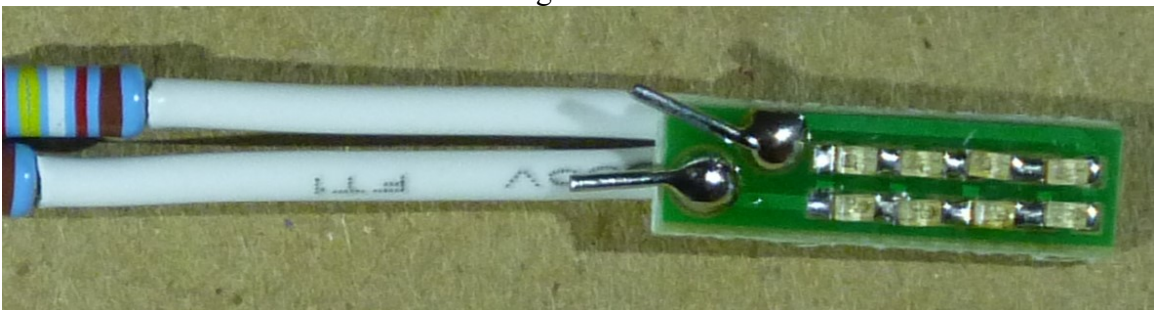

**Figure 4-Insert and form the leads**
6. Insert the resistor in the Blue Light PCB from the side *without* the LEDs. Form the leads as shown in Figure 4. Note that: